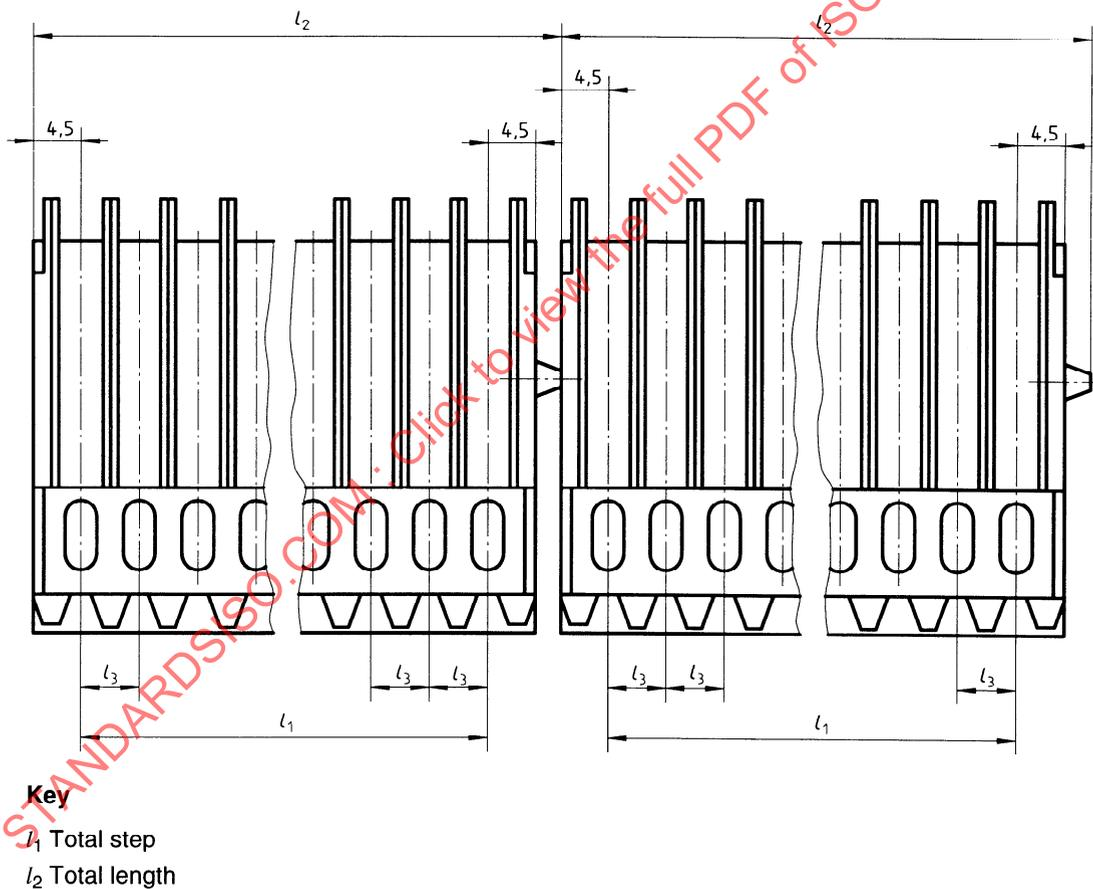

Figure 2 — Tray line-up
4.7 The limit deviations and fleet angles which serve to open the mould may only be used to an extent which does not result in difficulties. For example, when lining up successive straight trays in the projector (tray line-up, see figure 2), the step size l_3 of $5,5 \text{ mm} \pm 0,05 \text{ mm}$ to the next slide compartment and the tooth, respectively, shall be respected. For the total mean deviation, however, limiting values of $\pm 0,3 \text{ mm}$ apply (see dimension l_1 in table 1 and figure 2).